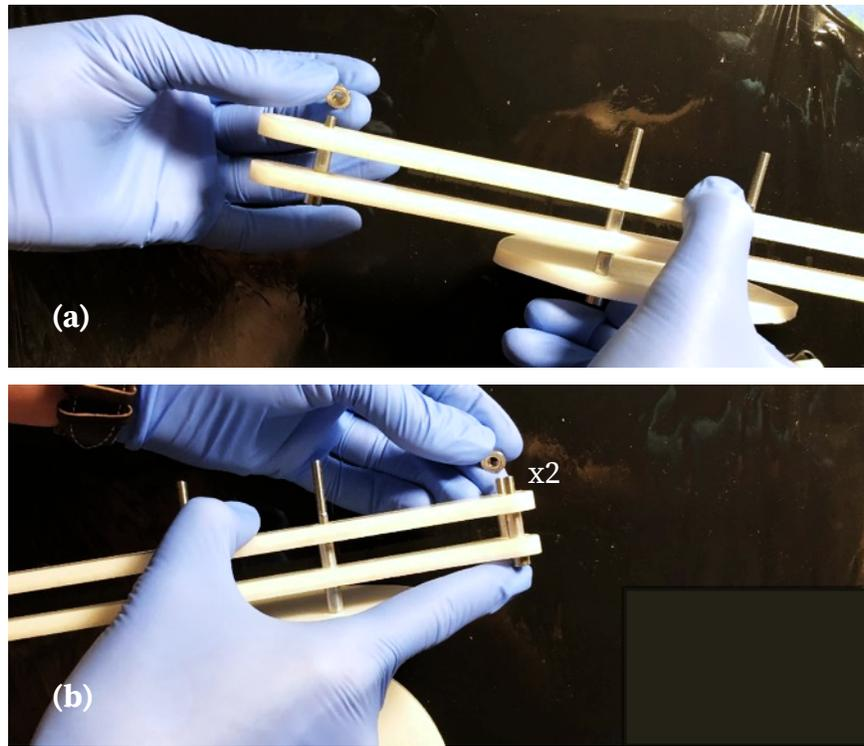

Figure 7
Step 8: Place and partially tighten one M4 flange nut [Part 7] on each M4X30 screw [Part 2] (Fig. 7). A total of three nuts should be used in this step.